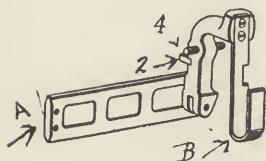
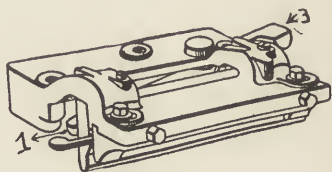

FIG. 26.
FIG. 27.
"All right," replied the Machinist; "I'll try. You see this screw in the bottom of the first elevator slide? That is an adjustment for regulating the height to which the elevator can rise when carrying a line of matrices to the second elevator. The screw must be set so that the guide-block on the elevator jaw will come in line with the groove in the guide-block on the end of the transfer carriage (*A*, Fig. 26). The transfer carriage is drawn to the right by the coil spring in the hollow frame of the machine, back of the assembler. The lever which operates the carriage has a roller which follows the surface of cam No. 10. This roller has an eccentric pin, the same as the line-delivery carriage roller has, and when this eccentric is properly set it
will cause the shifter finger (*B*, Fig. 26) to retreat far enough, after transferring a line of matrices, to allow the trip lever (1) in the elevator guide (Fig. 27) to drop in front of the projection (2) on the transfer carriage (Fig. 26), so as to lock it in that position. Now the transfer carriage can only be released by the latch being lifted, which the second elevator does when it comes down. This is accomplished by the adjusting screw on the arm striking on top of the trip lever (3,
Fig. 27). This lifts the other end (1) of the trip lever, which normally lies in the path of the projection (2) on the transfer carriage, and permits the transfer to be made.
“That is usually caused by the screw (4) in the shifter finger (*B*, Fig. 26) being turned in so far that it prevents the two shifters from coming close enough together to enable the pawl to drop over the ears of the spacebands. It may be, though, that one side of the intermediate spaceband channel is higher than the other and lets the bands swing around. If that is the case, the whole channel must be taken off, the dowel pins removed and the low side raised so a band when hanging from the rails is supported equally by both ears.”
The second-elevator transfer carriage (Fig. 26) was next placed in its track and connected to the lever. Then the governor was fastened in an upright position and connected with $\frac{3}{8}$ -inch rubber hose as shown in Fig. 6.